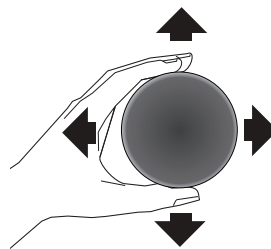
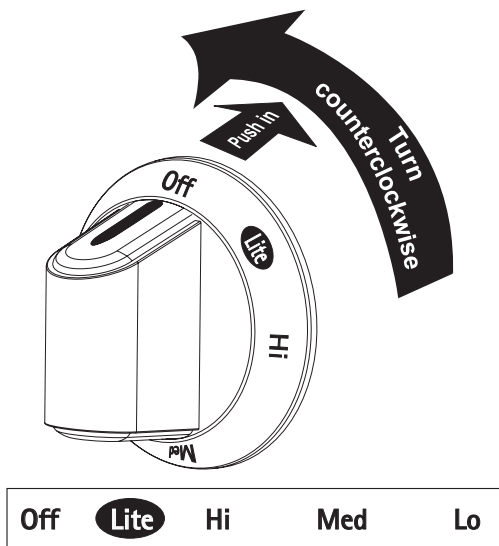

Fig. 4
Figure 1
The burner cap lip (See Fig. 1) should fit snug into the center of burner head and rest level. Refer to Figs. 2 & 3 for correct and incorrect burner cap placement. Once in place, you may check the fit by gently sliding the burner cap from side to side (Fig. 4) to be sure it is centered and firmly seated. When the burner cap lip makes contact inside the center of the burner head you will be able to feel it. Please note that the burner cap should **NOT** move off the center of the burner head when sliding from side to side.
2. Push the surface control knob down and turn **counterclockwise** out of the OFF position (See Figure 1).